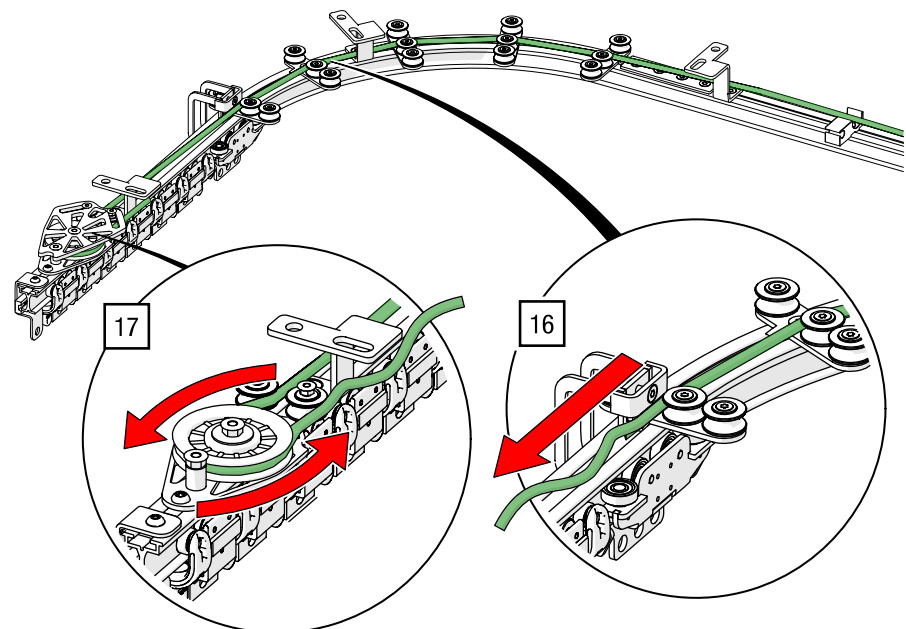

Fig. 98: Top cord operation – Guide the end of the cord through the return pulley into the master runner (return pulley exemplary shown without cover plate)
16. Guide the end of the cord through the following cord operations (see Fig. 98).
17. Guide the end of the cord on the inside of the guide pulleys through the return pulley (see Fig. 98).